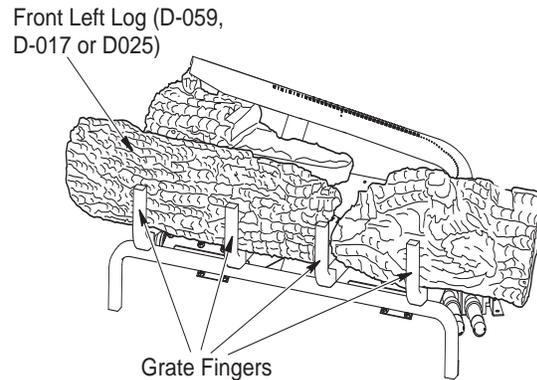

Figure 26 - Installing Front Left Log
- Find the front left log (LMF24GTA/B or LMF24MOA/B models: D-059, LMF30GTA/B or LMF30MOA/B models: D-017, LMF36GTA/B or LMF36MOA/B models: D-025). See Figures 26, 26A,